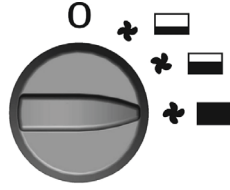

FIG. 3
- **Fig. 3** - Maximum capacity